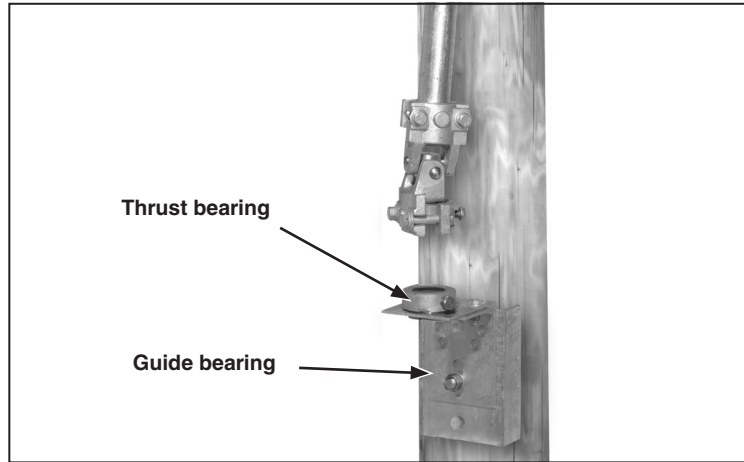

Figure 20. Install the guide bearing.
STEP 15. Position and install the guide bearing assembly on the pole in accordance with the dimension shown on the erection drawing. See Figure 20.